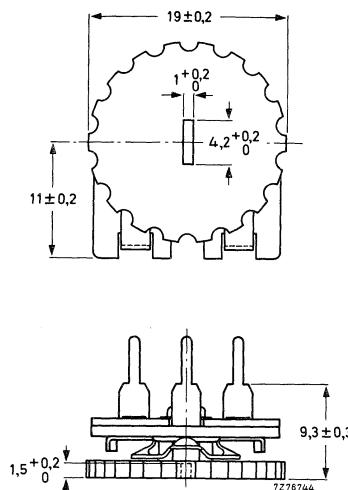

Fig. 7 Potentiometer 2322 411 433..
- 84 = with pins for horizontal mounting (according to DIN 44151, Fig.7)